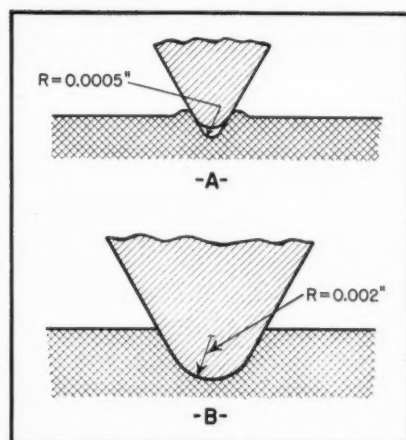

Fig. 2. Relative dimensions of embossed groove (A) and conventional acetate groove (B), together with recording styli used for both types.
This small dimension necessitates the use of a much sharper stylus point than is used for acetate recording. A conical sapphire having a tip radius of 0.5 mil is used, with an inclined angle of 70 deg., resulting in a groove depth of 0.82 mils. The relative dimensions are shown in Fig. 2, where (A) represents the stylus of this recorder and the resulting groove, and (B) represents the conventional stylus used for acetate recording. Since no material is removed, the embossing process deforms the surface of the disc to some extent, as in-